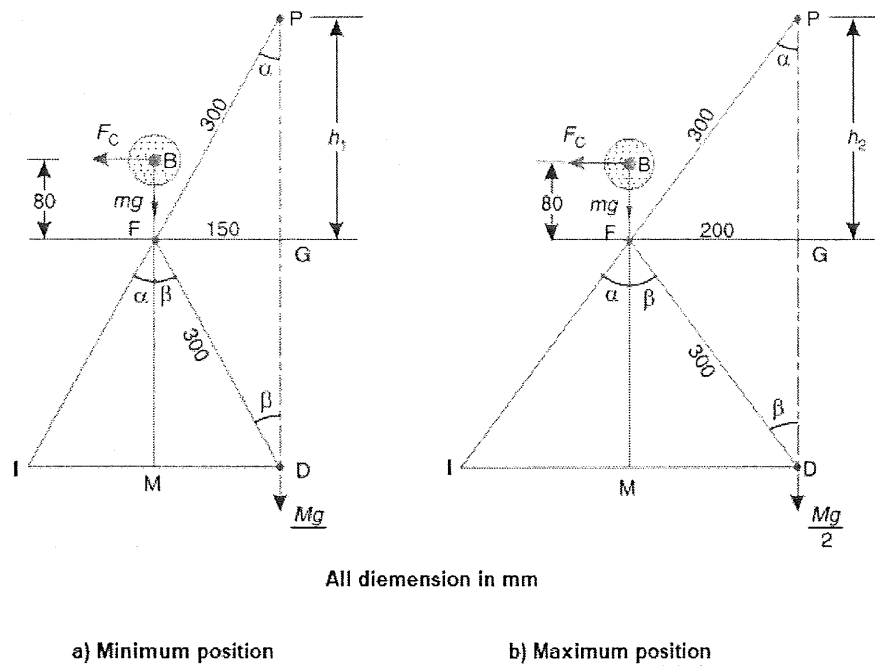

Figure 8
- b) Figure 8 shows a Proell governor has equal arms of length 300 mm. The upper and lower ends of the arms are pivoted on the axis of the governor. The extension arms of the lower links are each 80 mm long and parallel to the axis when the radii of rotation of the balls are 150 mm and 200 mm. The mass of each ball is 10 kg and the mass of the central load is 100 kg. **Determine**